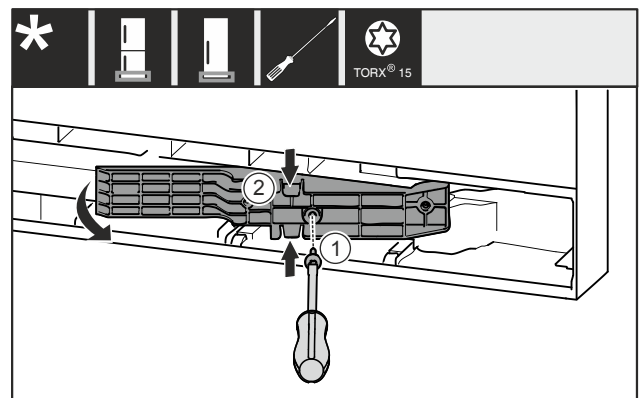

Fig. 17*
- ▶ Remove the screw Fig. 17 (1)*
- ▶ Gently press the top and bottom of the adapter piece Fig. 17 (2) together and pull it out.*